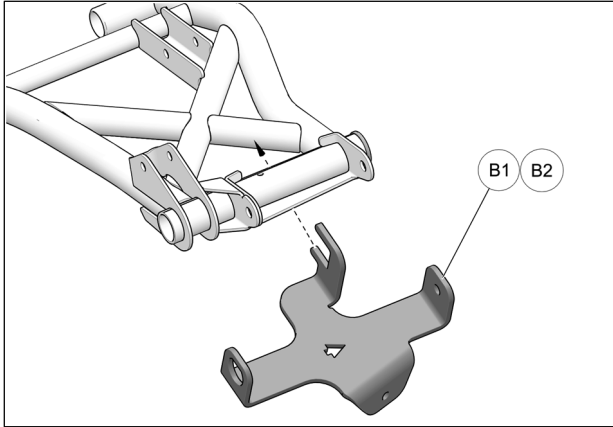

Fig. 5
6. Hook anchor bracket (**B1-B2**) up to lower suspension arm support crossmember. See Fig. 5